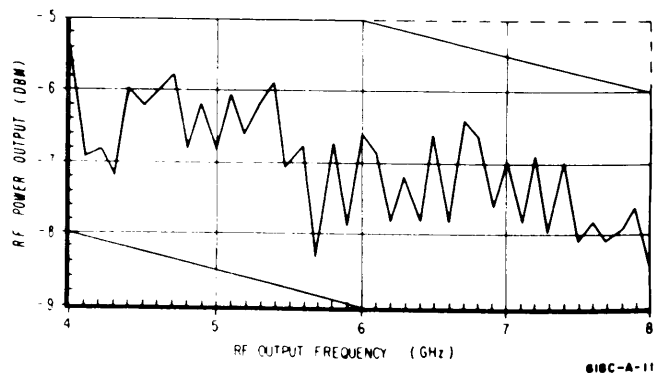

Figure 5-18. Typical Response Curve (618C)
g. Plot a dBm-frequency curve from readings obtained in step f (see Figure 5-18). Resulting response curve will consist of a series of peaks and troughs having an amplitude of ± 1.25 dB or less. Draw a straight line (parallel to frequency axis) through response curve in such a way that variations are averaged about the line.